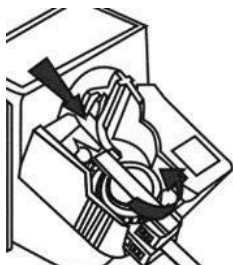

Fig. 4
9. Fully tighten the clamp (Fig. 4).